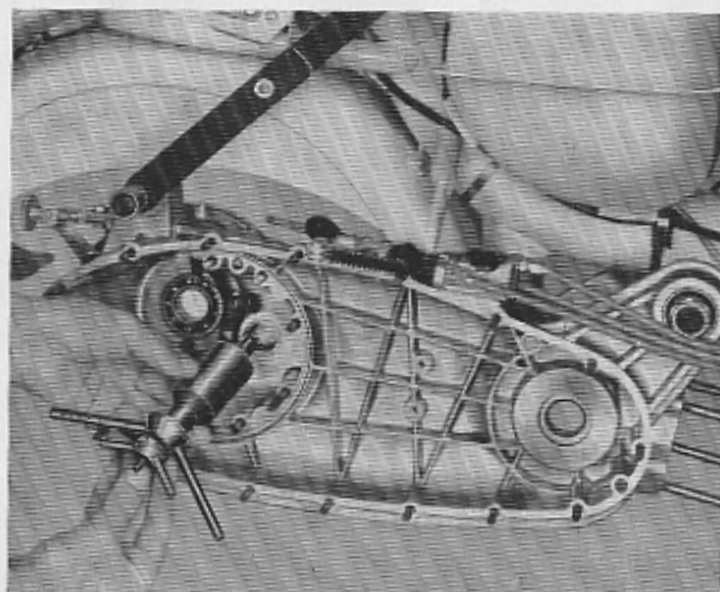

Fig. 21
- 35 To remove main shaft needle cage outer race: use Tool No. 59350. See Fig. 21.